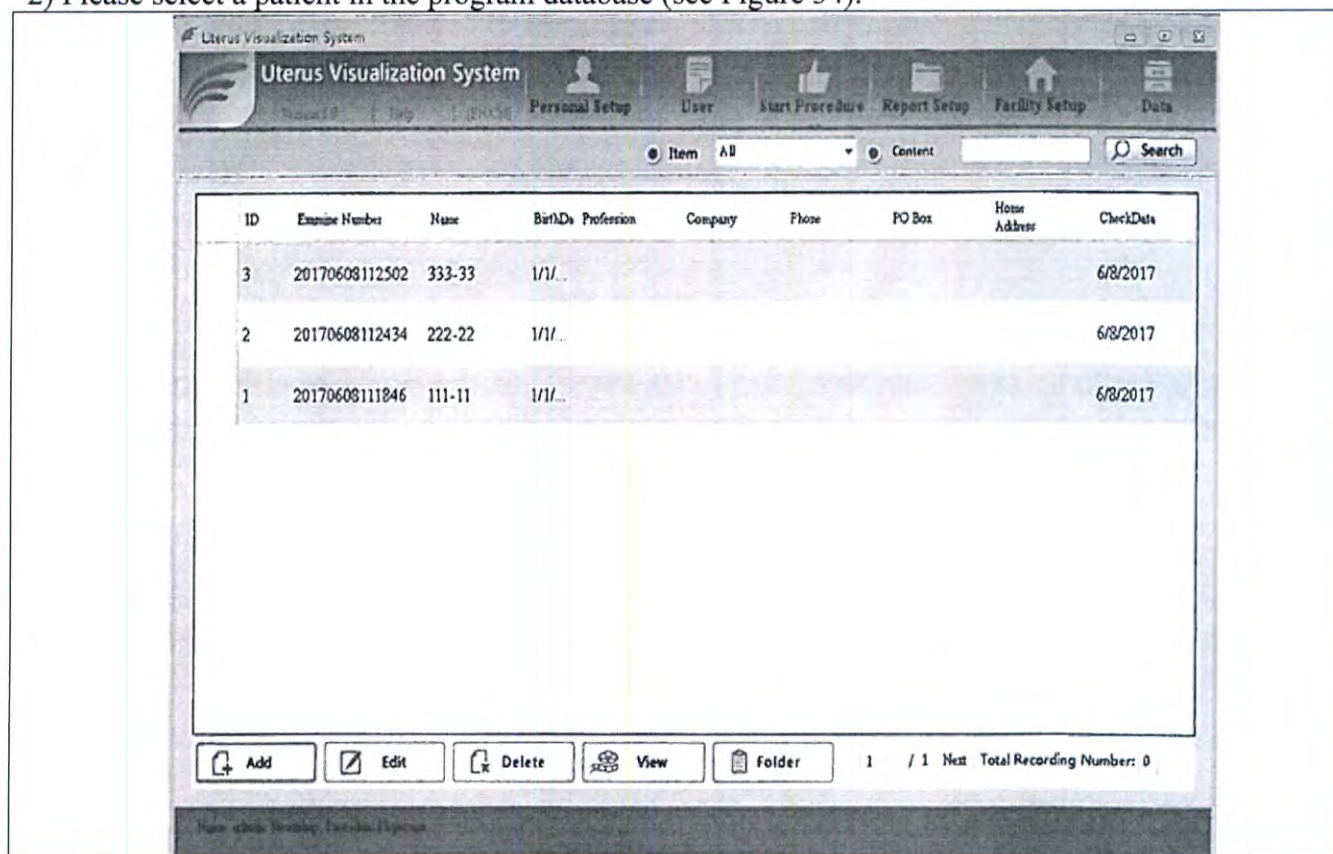

Fig. 34 – Dialog window for selection of a patient in the database
2) Please select a patient in the program database (see Figure 34).